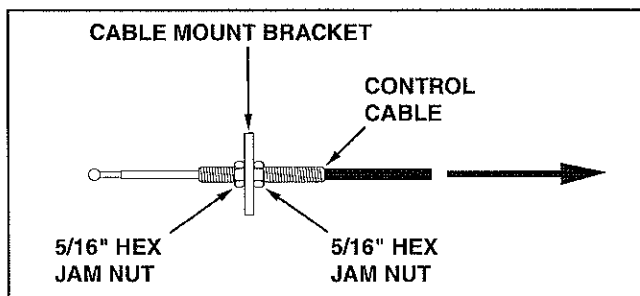

FIGURE 22
3. If the blade will not unlock and pivot, the angle lock bars are not disengaging from the slots in the pivot plate. To correct, adjust the 5/16" hex jam nuts to draw the end of the control cable back towards the cable mount bracket. The less the threaded end of the cable extends through the bracket, the more the angle lock bars can retract to disengage from the slots in the pivot plate. See figure 22.